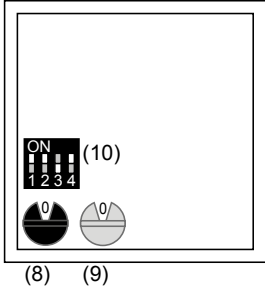

Figure 3: Rotary and DIP switch setting
- On the button cover, set the group address 0-F of the black rotary encoding switch (Figure 3, 8) according to the setting on the BTE-116 button expander.
- On the button cover, set the subscriber address of the blue rotary encoding switch (Figure 3, 9) according to the door call connection on the BTE-116 button expander.
- Set the DIP switch for operating modes (Figure 3, 10) according to Table 2 below.